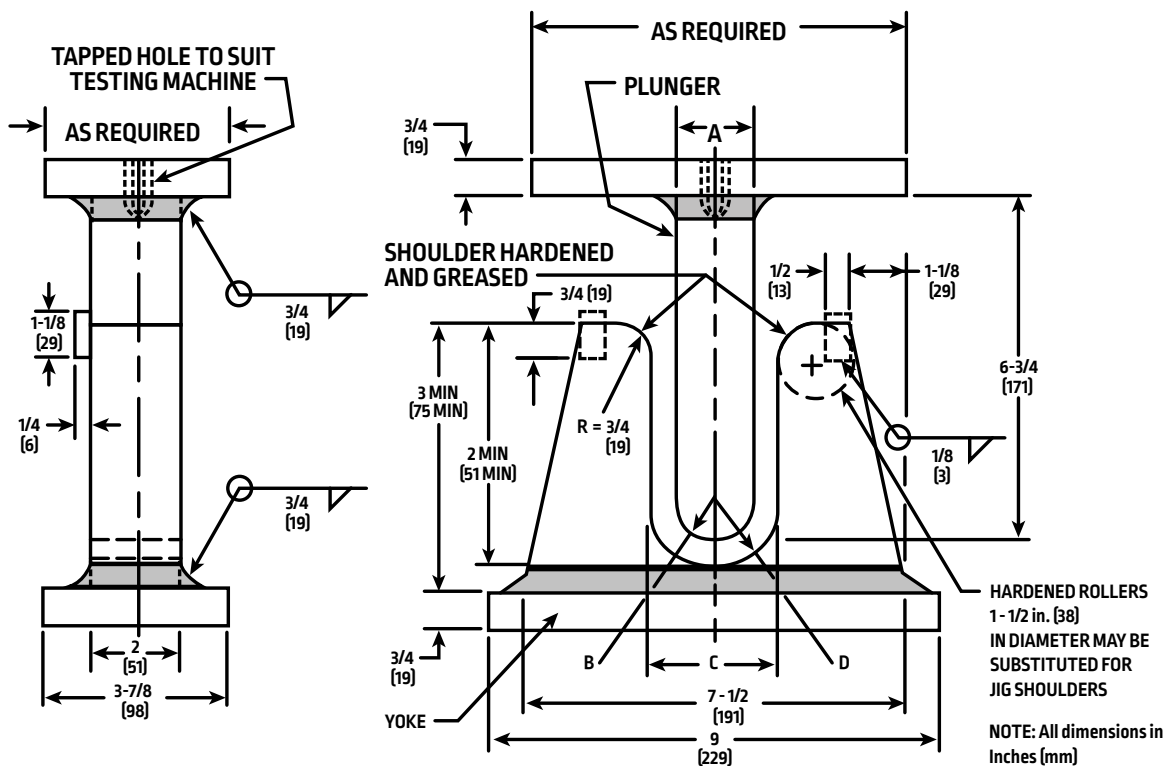

Figure 6-7: AWS D1.2 Requirements
1. The ductility of aluminum welds is lower than that of steel welds. Ensure the test radius is correct for the alloy under test. Figure 6-7 shows the bend test requirements of AWS D1.2, which are the same as those in most fabrication codes.